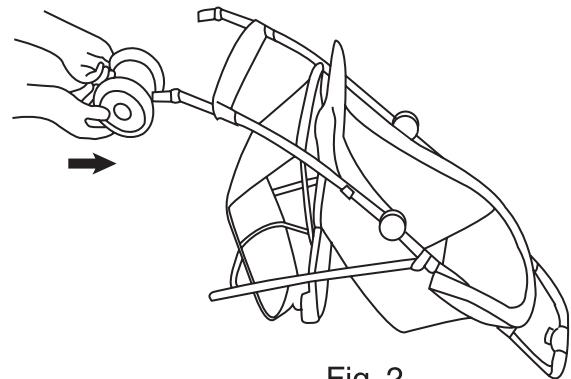

Fig. 2
- Push each front wheel onto the front wheel posts until snapped into place. (Fig 2) Pull on the wheel to ensure that it is securely attached to the stroller.